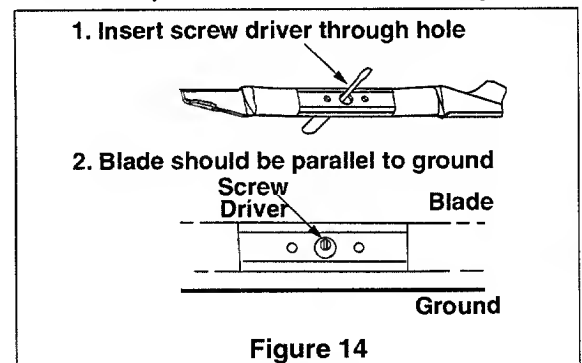

Figure 14
- Test the blade by balancing it on a round shaft screwdriver or a blade balancer. See Figure 14.